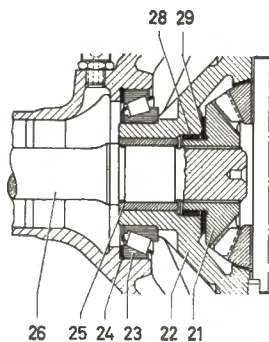

Fig. 35-3a/1
Caution: On the first cars of Models 250 S, 250 SE, 300 SEB and 300 SE/C as from August 1965 the left rear axle shaft had an additional mounting in the differential housing (Fig. 35-3a/1), whereas on later cars the bearing bushing (25) was no longer installed and the rear axle shaft was modified accordingly (Fig. 35-3a/2).